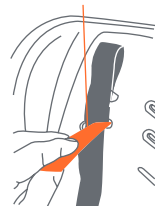

Fig. 32-1
- Using the included Belt Threading Tool, insert the Harness Straps through the Slots selected in step 2 above, in the seat pad and the seat shell, respectively (Fig. 32-1).